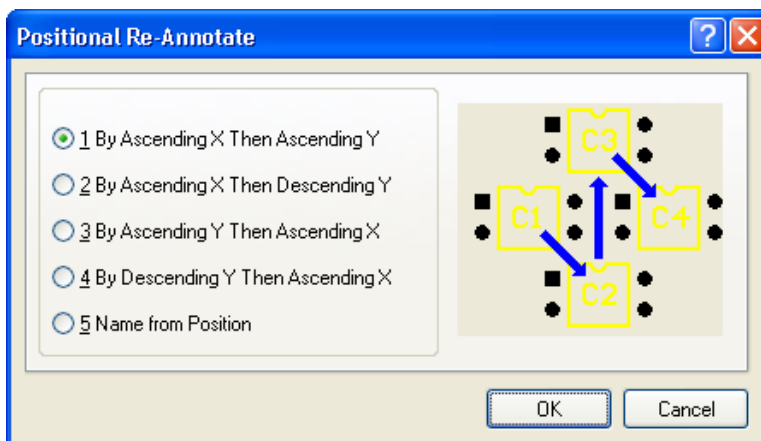

Figure 3. *Positional Re-Annotate* dialog
- To positionally re-annotate the components on the PCB, select the **Tools » Re-Annotate** command. This displays the *Positional Re-Annotate* dialog, as shown in Figure 3. Select the required direction method and click **OK**.